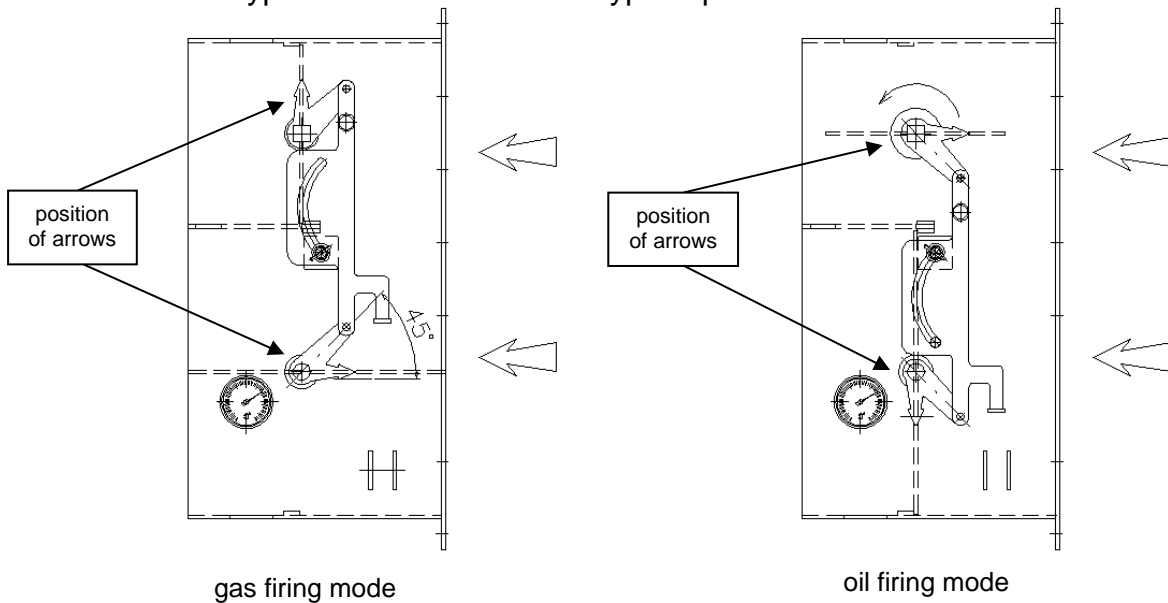

figure 9 Bypass valve positions
12. The condenser is protected against over pressure by means of a pressure relief valve, see figure 9. The discharge has to be connected to a vertical pipe with identical diameter until a minimum of 10 cm above the ground, to prevent risk of injury (hot steam) to people.